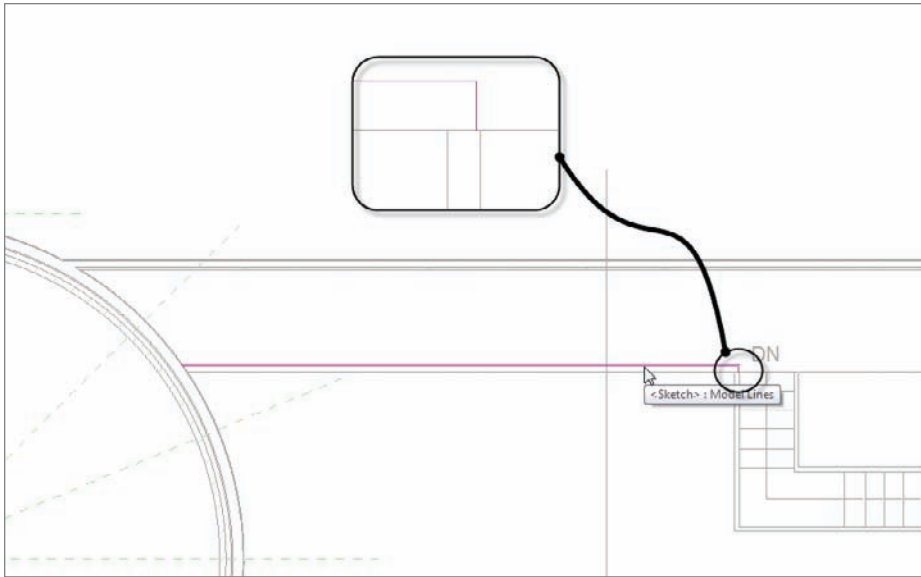

FIGURE 10.75 Adding the railing. This process is becoming old hat!
4. Sketch a railing that is 4" in from the face of the landing, as shown in Figure 10.75.
5. Make sure you have a "leg" tied into the stair railing, as shown in Figure 10.75.